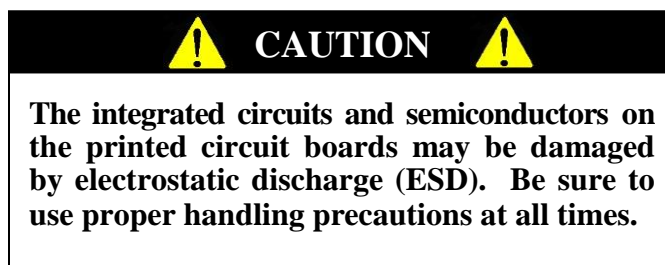

Figure 12: Location of Hidden Initialization Buttons
STEP 1: (Figure 12) The Initialization Buttons are hidden buttons located on the label.